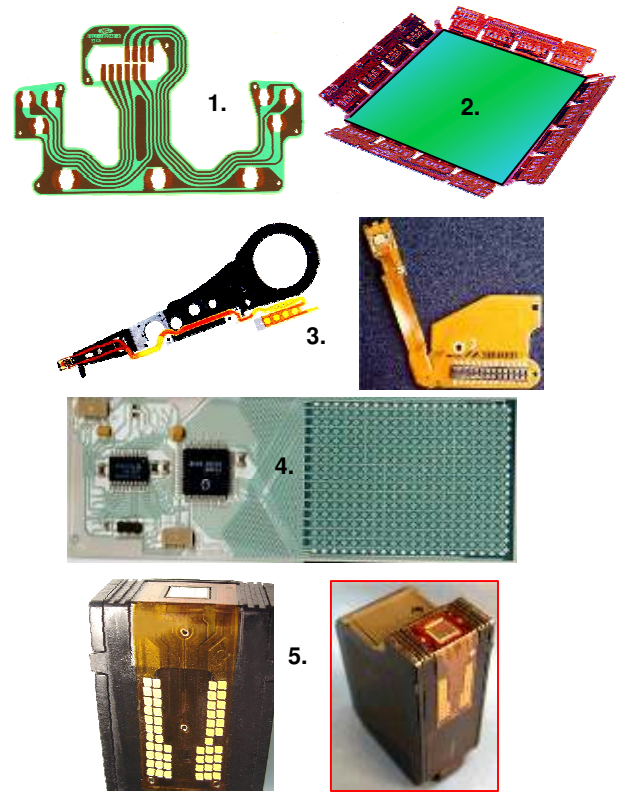

FIGURE 17 - FLEX IS EVERYWHERE
The slide presentation will cover many more flex applications and we can't do justice to the wide applicability of flex in a short paper. But here's a final graphic of some popular flex circuits in Figure 17. Description is at the bottom of the page.
Legend for Figure 17: (1) Ford instrument cluster; (2) F-16 Display; (3) Disk drive; (4) PTF mouse pad; (5) Ink jet flex "3D package & interconnect".